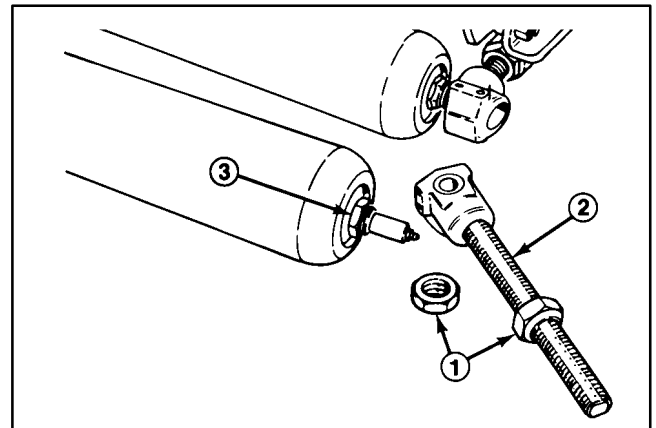

Figure 27
2. Remove collar assembly from roller adjustment housing (Fig. 27)
IMPORTANT:When assembling a new roller to the cutting unit, mount roller so that the roller shaft "locknut" is on the right side of the cutting unit. (As viewed by the operator sitting on seat of machine). This prevents the lock nut from loosening during operation (Fig. 27).
2. Install collar assembly to the roller adjustment housing (Fig. 27)